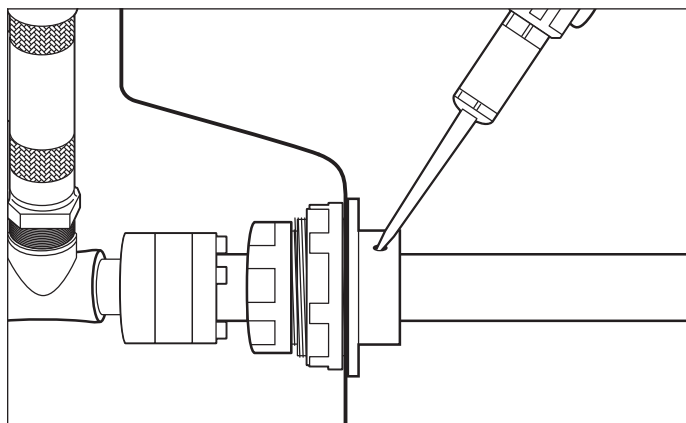

Figure 22-4
10. Use epoxy bonder cartridge with the applicator gun to fill all three ports on the threaded body until the ports are visibly full (see Figure 22-4).